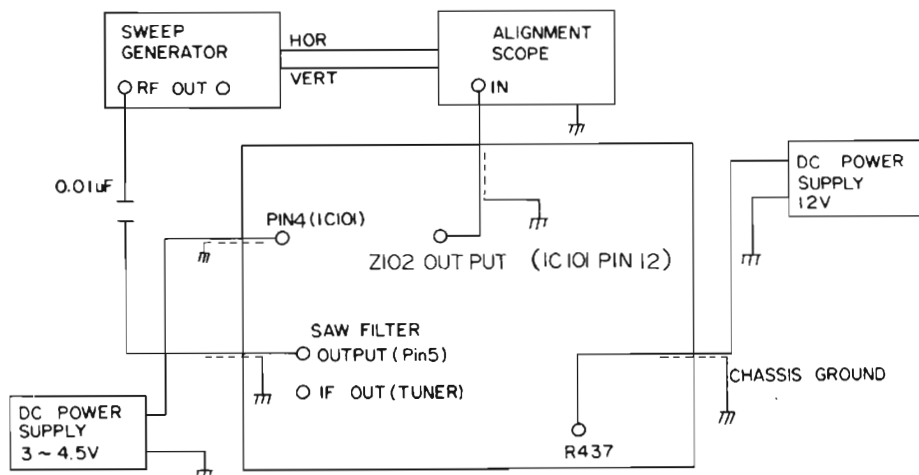

Figure 1
- a) Do the connection as shown in figure 1 and then DC power suppliers on.
- b) The connection of alignment is the same as figure 1 but connect RF OUT of the SWEEP GENERATOR to TURNER IF OUTPUT terminal of Main PCB.